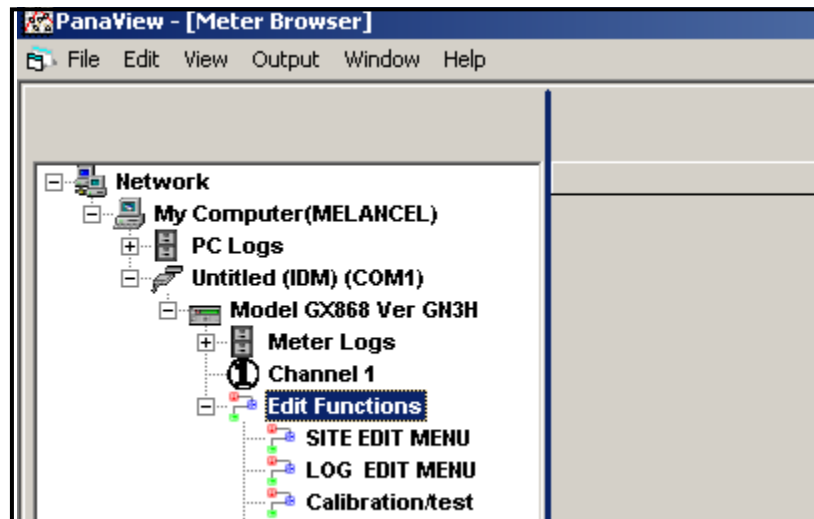

Figure 36: Meter Tree with *Edit Functions* Option
4. From the meter tree, expand the *Edit Functions* option. The window now appears similar to *Figure 36* below, with a list of available menus. The menus listed are those available on the meter.